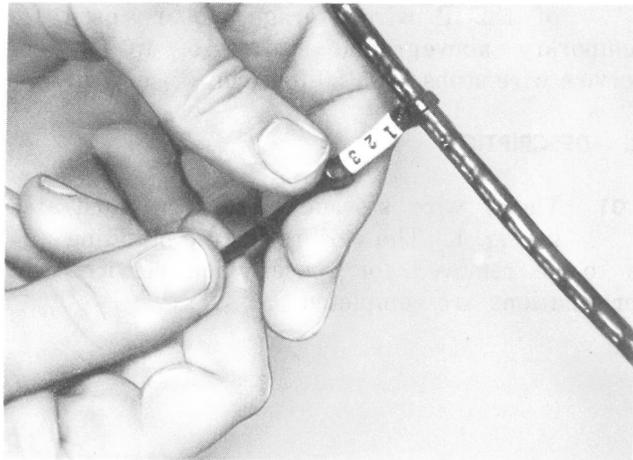

Fig. 3—Placing Tie and Marker
(1) Twist off and retain locking head from nylon tie.
(2) Wrap the tie around the service wire and slip the tail through the eye of the grommet end and pull taut.
(3) Slide the desired preprinted tubular markers on the tail of the tie, then slide the locking head on the tie and push snug against the markers (Fig. 3).